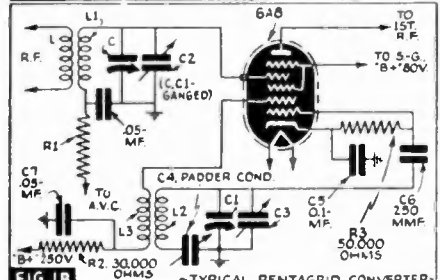

FIG 1B ~TYPICAL PENTAGRID CONVERTER~
(2) A Pentagrid Converter Tube may be used, wherein the oscillator tube and mixer tube are combined in 1 shell and the 2 circuits electron-coupled, as shown in Fig. 1B.